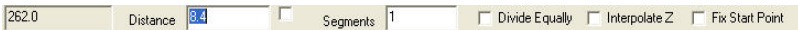

Figure 10-8. Segment Input Bar
1. Click **Modify** ► **Line** ► **Segment Line** or click the **Segment Line, Arc, or Circle**  icon on the **Survey Tools** toolbar (Figure 10-8).